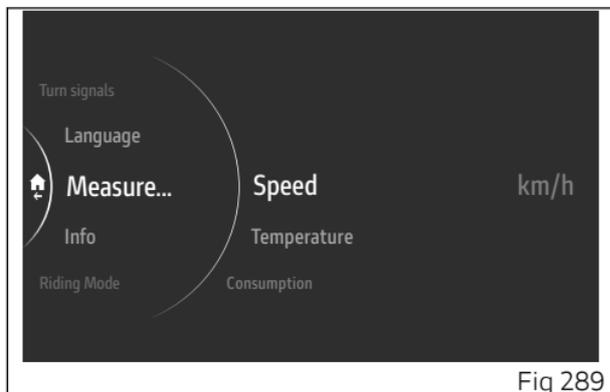

Fig 289
- Select the "Speed" item and press ENTER (Fig 289).